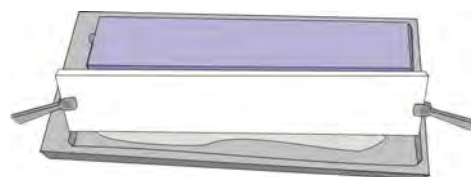

Fig. 5
7. Remove excess electrode buffer from wicks by tilting the electrode stack along one long edge and dab it on the paper pool bottom (fig. 5).